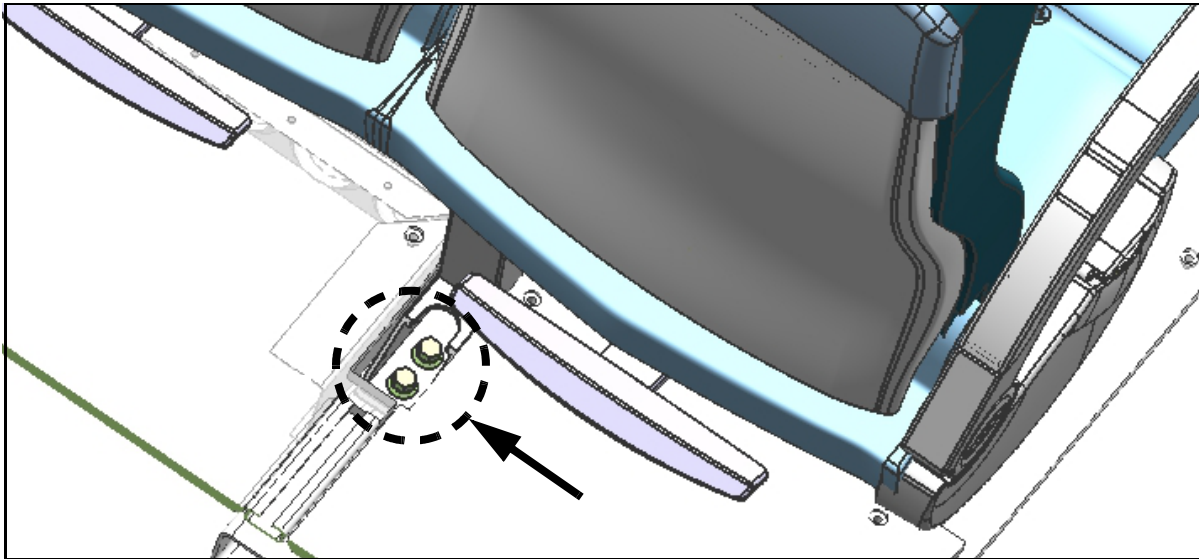

Figure 3. Rear view of second row passenger seat base.
8. Locate the two (2) nuts from the seat track tee bolts located at the rear of the seat base (refer to Figure 3). Remove and discard the two (2) nuts from the seat track tee bolts.